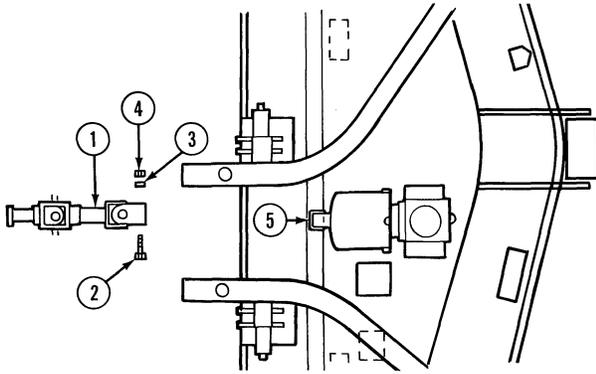

Figure 3
8. Loosen the driveline shield bolts and tip the shield upward. Install the bored yoke end of the driveline (1), Figure 3, to the gearbox input shaft (5). Retain with a 5/16"-18 x 2-1/2" bolt (2), lock washer (3), and nut (4).